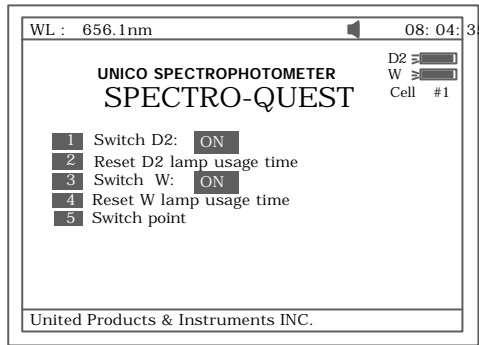
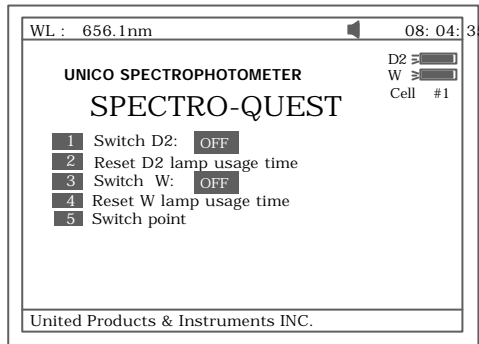
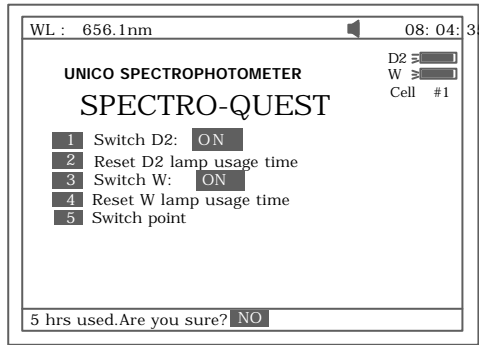
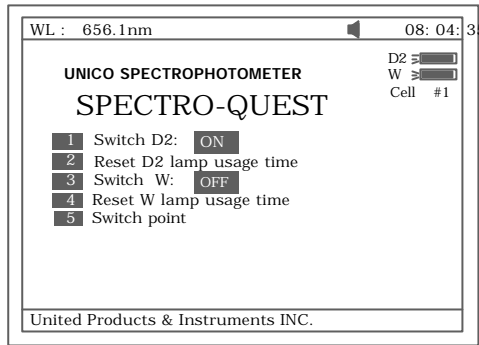

Fig 79
Fig 80
Fig 81
Fig 82
Press **【3】** to set lamp (Fig 79). **【ESC/STOP】** to exit.
1. Press **【1】** in **Fig 79** to switch on/off D2. Fig 80.
2. Press **【2】** in **Fig 79** to reset usage time of D2(Fig 81). Press **【Y】** or **【N】** to select “Yes” or “No”, and then press **【ENTER】**.
3. Press **【3】** in **Fig 79** to switch on/off W. The indication is also on the top right corner of the screen (Fig 82).
4. Press **【4】** in Fig 79 to reset usage of W (Fig 83). Press **【** **】** or **【** **】** to select “Yes” or “No”, and then press **【ENTER】** .
5. Press **【5】** in Fig 79 to set the switch usage point of D2 and W lamp (Fig 84).